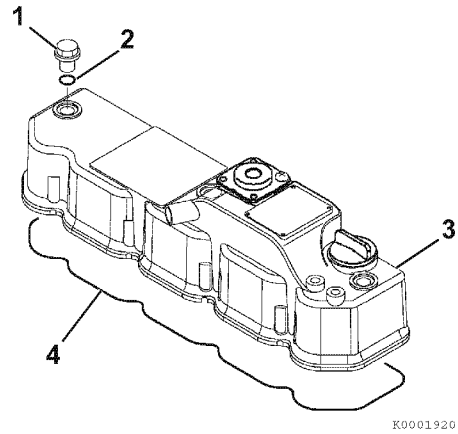

Figure 6-6
2. Remove the valve cover nuts (Figure 6-6, (1)).
3. Remove the O-ring (Figure 6-6, (2)) on each valve cover nut.
4. Remove the valve cover (Figure 6-6, (3)) and the valve cover gasket (Figure 6-6, (4)).